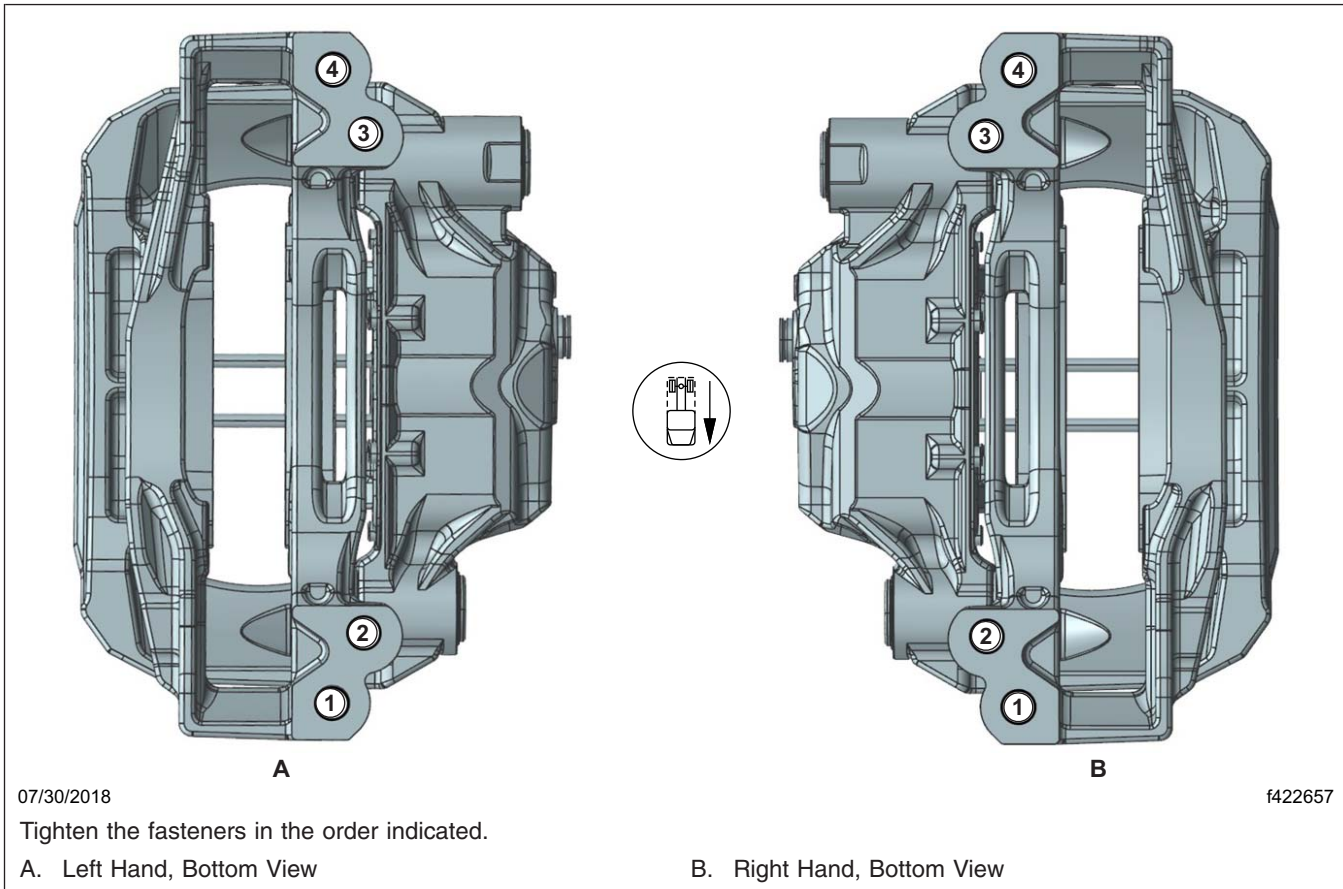

Fig. 9, Wabco Maxxus Radial Mounted Caliper Tightening Pattern
4. Set a torque wrench to 273 lbf-ft (370 N-m) and tighten the caliper mounting bolts following the tightening pattern shown in **Fig. 9**. If they do not turn, no further work is needed. If they turn, take the vehicle to an authorized Freightliner dealer to have all of the caliper bolts on that wheel end replaced.